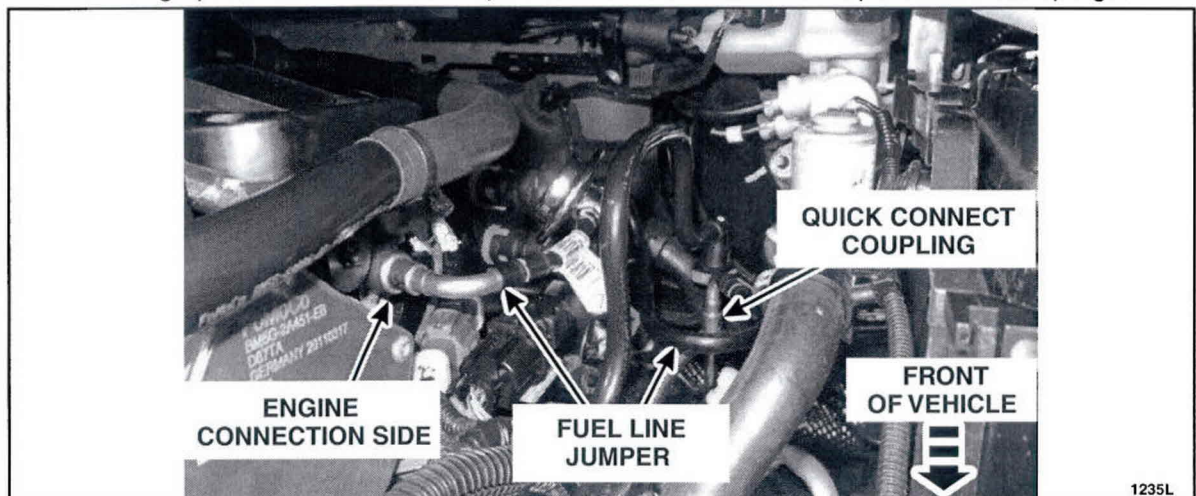

FIGURE 5
11. Remove and discard the fuel line jumper. See Figure 5.